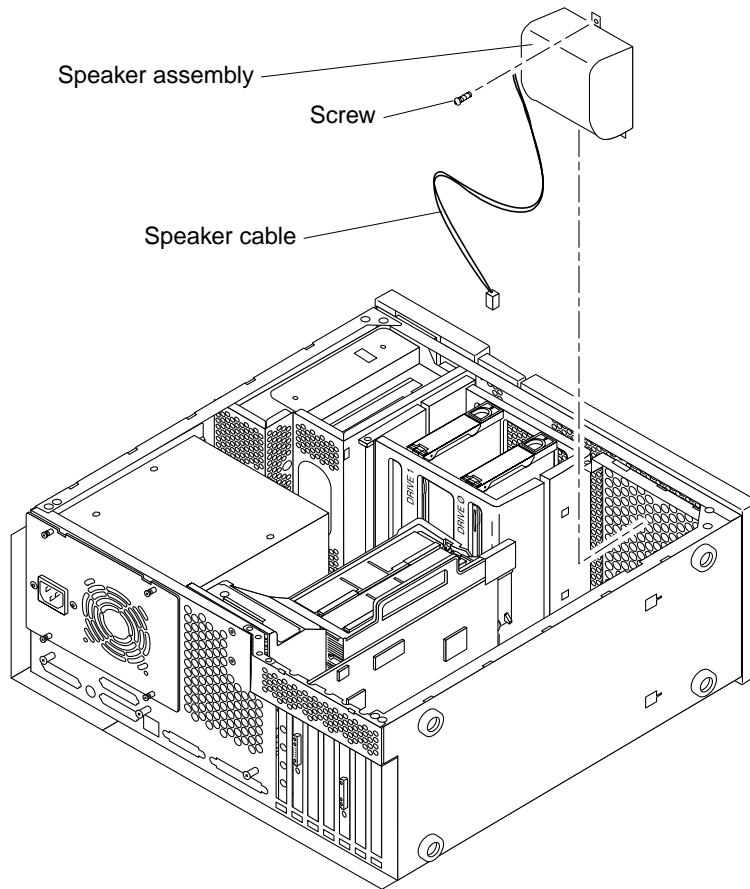

FIGURE 8-8 Removing and Replacing the Speaker Assembly
5. **Disconnect the speaker cable from the motherboard** (FIGURE 8-8).
1. **Position the speaker assembly in the chassis (FIGURE 8-8).**
7. Remove the hard drive(s) (FIGURE 8-8):